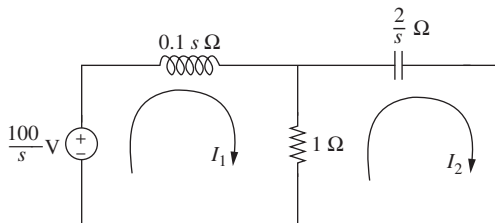

Figure P7.32 Two-loop circuit for problem P7-32.
- 7-32.** Consider the two-loop circuit shown in Fig. P7.32. The currents I_1 and I_2 (in amps) satisfy the following system of equations: